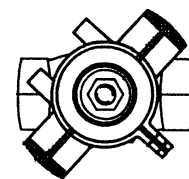
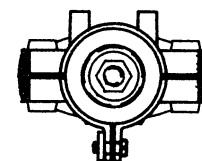

FIG. 2
FIG. 3
1. Thread nut (1) onto valve stem (8) approximately 1".
2. Place flat washer (2) on top of nut (1).
3. Screw linkage (7) onto valve bonnet (9) until base of linkage contacts the base of valve bonnet.
4. Rotate linkage to the position shown in FIG. 2.
**NOTE:** To properly position the linkage on the valve and prevent the flange on the bonnet adaptor (11) from pulling into the base of linkage, use a flat screwdriver to spread the tabs apart slightly.
5. Gently tap the base of linkage housing, around the bonnet adaptor (11), with a rubber mallet to properly seat the housing against the adaptor.
6. Assemble washer plate (4) and threaded plate (5) onto the housing tabs with 2 screws (6). Tighten the tab screws (6) evenly until snug against the tabs.
7. Rotate the linkage to align it with the valve ports as shown in FIG. 3.
8. Evenly torque the tab screws (6) to 25-30 in-lbs.
9. Face the lever (12) and rotate it counterclockwise until the connecting rod (10) contacts the lower valve stem nut (1).
10. Thread the upper valve stem nut (1) onto the valve stem (8) until 1/16" to 1/8" of valve stem is visible above the nut (1).
11. Rotate the lever (12) clockwise to lift the connecting rod (10) up and around the upper valve stem nut flats (1).
12. Hold the connecting rod (10) with a wrench to keep it from twisting and tighten the lower valve stem nut (1) against the connecting rod.
13. Rotate the lever (12) until valve stem is in the full up position.
14. Loosen the set screws on the lever (12). Reposition the lever so that the end of the handle is just inside the left side of the linkage housing. Tighten the 2 set screws on lever.